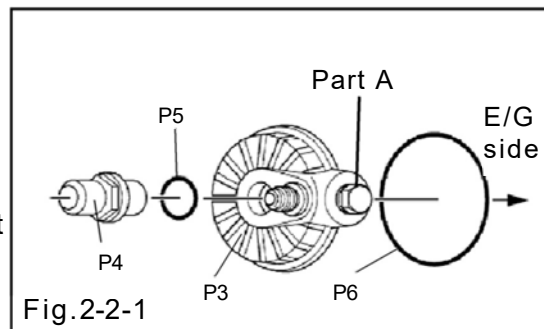

Fig.2-2-1
- (1) Lightly apply some engine oil to the O-ring No.1 and No. 2. (Fig. 2-2-1)
- (2) Install O-ring No.2 in the inner groove of the Attachment and install O-ring No.1 to Attachment Bolt B. (Fig. 2-2-1)
- (3) Use Attachment Bolt B to temporarily attach whole assembly to the engine's oil filter mounting part. Make sure that Part A in the figure faces forward on the engine. (Fig. 2-2-1)